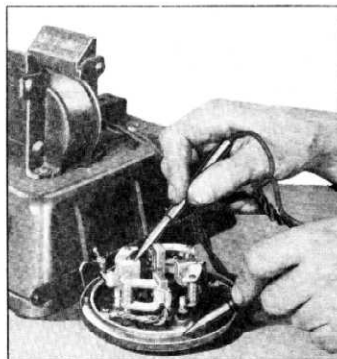

Fig. 45—Insulated Brush Holder Test for Ground
1. Place one test prod lead to the cover and the other on the brush holder (fig. 45).